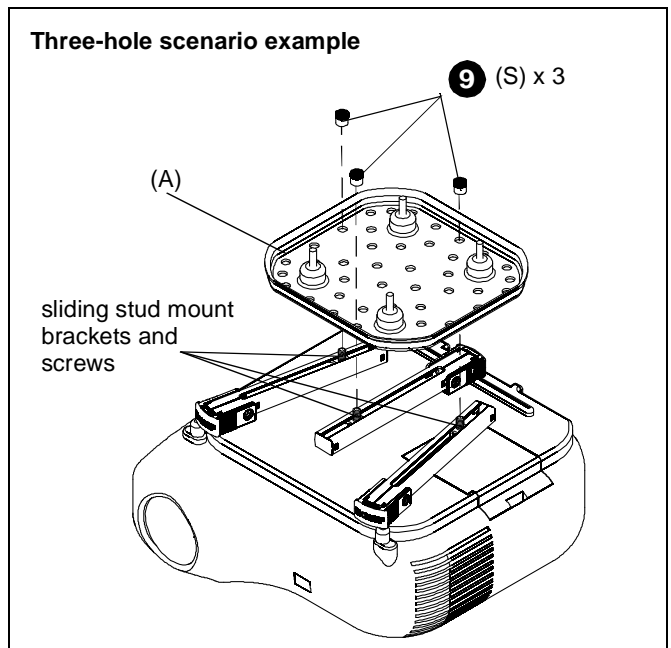

Figure 6
- Maneuver legs so that sliding stud mount brackets and screws are towards the middle of the projector. (See Figure 6) and (See Figure 7)
- Position sliding stud mount brackets and screws so that SSBU or SSMU main plate (A) can be evenly mounted to legs. (See Figure 6) and (See Figure 7)
- Secure SSBU/SSMU main plate to SSBU/SSMU legs by installing 1/4-20" Allen nuts (S) to screws on SSBU/SSMU legs. (See Figure 6) and (See Figure 7)